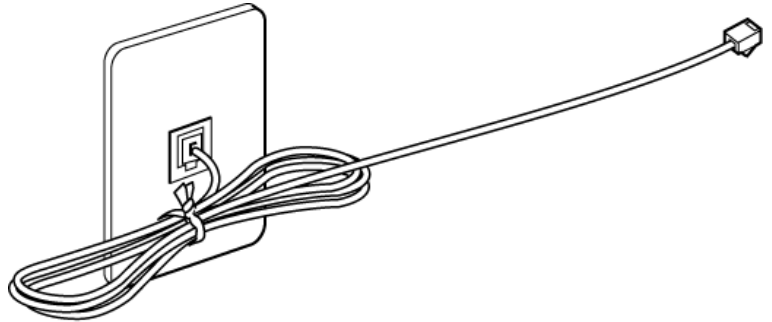

Figure 5-71 Bundling the Line Cord
1. Plug line cord in the wall receptacle. Leave about eight inches of cord and bundle the rest as shown in Figure 5-71 Bundling the Line Cord.